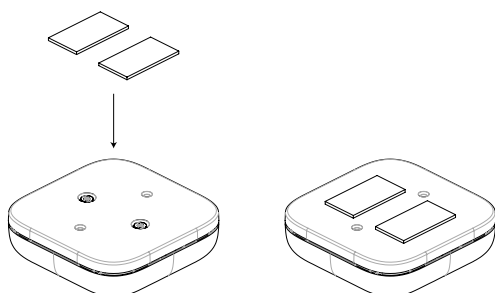

Fig. 2 Climate sensor mounting with double-sided tape
*Mounting option 1.* Fit double-sided tape at the bottom of the product, while not covering the product information sticker. Uncover the cover of the double-side tape and stick the device at the designated position with the three 'holes' facing to the ground (Figure 2 & 3); or